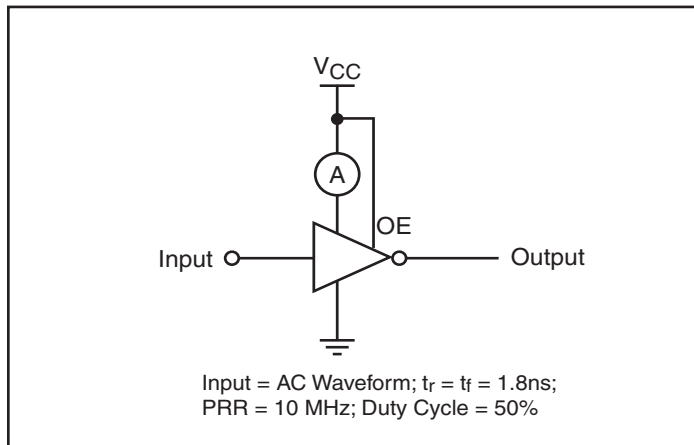

Figure 2. ICCD Test Circuit
- CPD is defined as the value of the internal equivalent capacitance which is derived from dynamic operating current consumption (ICCD) at no output loading and operating at 50% duty cycle (see Figure 2). CPD is related to ICCD dynamic operating current by the expression: